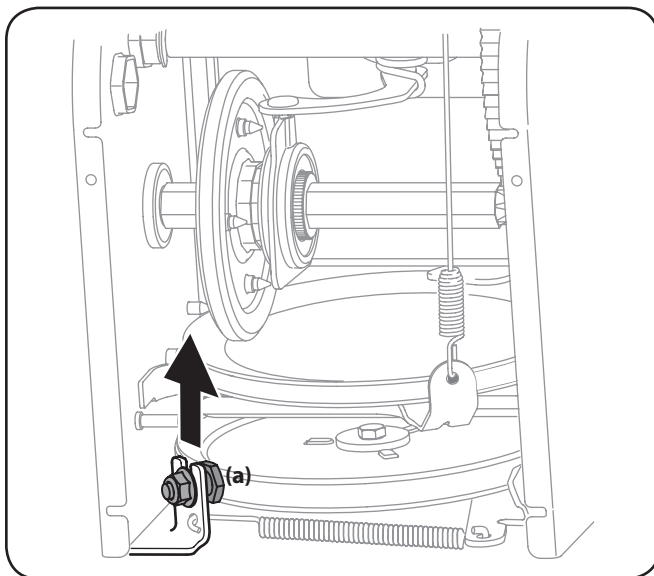

Figure 7-5
- Loosen and remove the shoulder bolt (a) which acts as a belt keeper. See Figure 7-5.